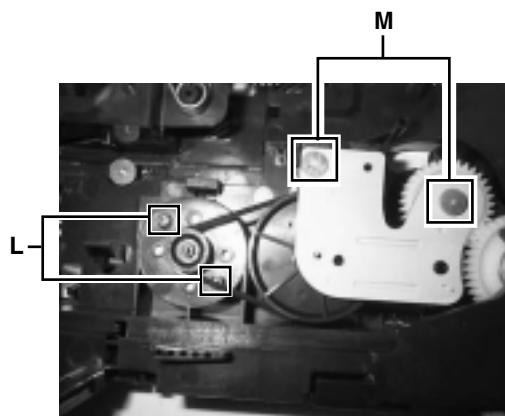

Fig.18
■ Replacing the loading motor and rotor belt of the CD changer (See Fig .18)